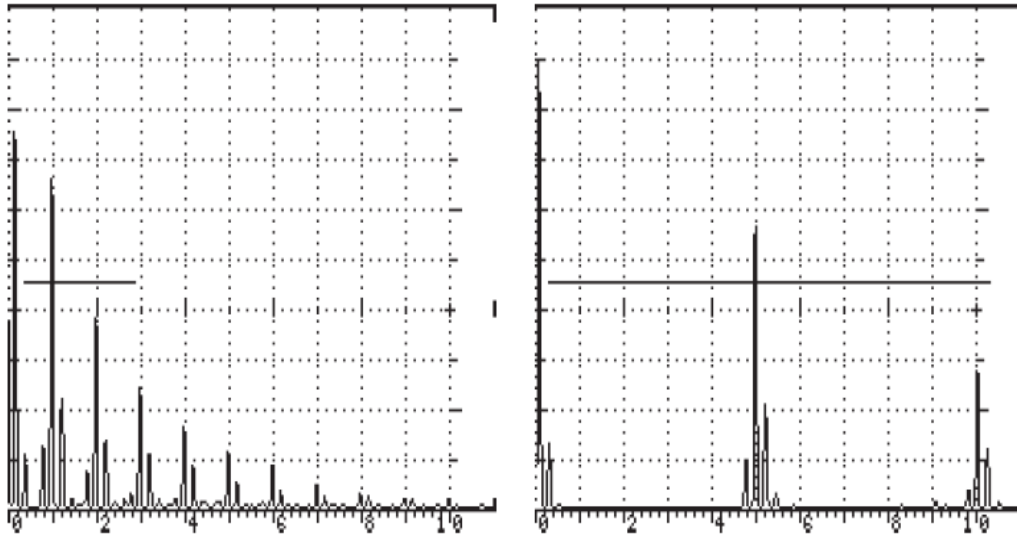

Figure 5-6: Echo From 0.100 Step and Figure 5-7: Echo From 0.500 Step
3. Press the Gate POSN *menu soft key* and rotate the SmartKnob™, or press the POSN *menu soft key* repeatedly, to adjust the Gate position so that the start of the gate is to the left of the thinnest (0.100 inch) step (see **Figure 5-6**).